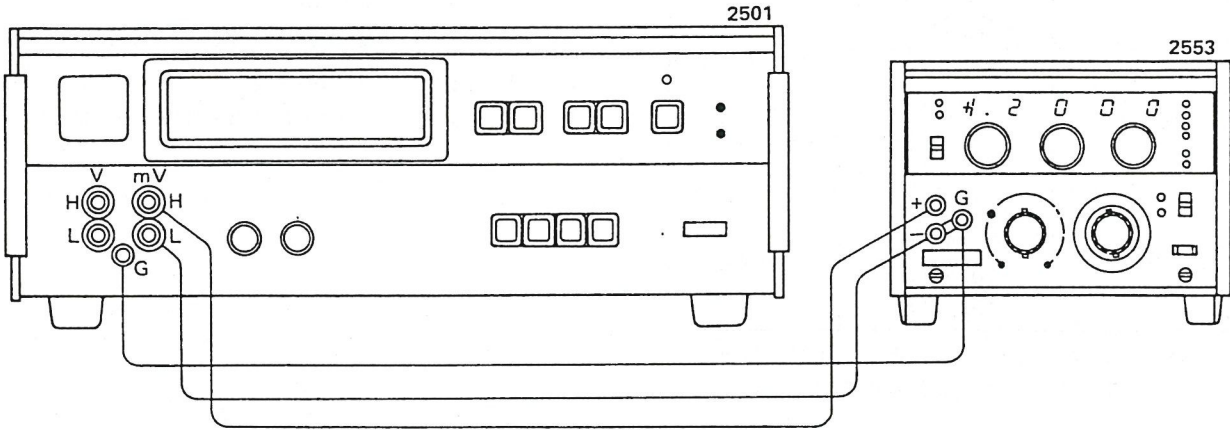

Figure 2-4. Setup for Accuracy Inspection of DC mV Output Corresponding to Thermo-emf.
a) Connect this instrument and Type 2501 as shown in Figure 2-4, and measure mV output